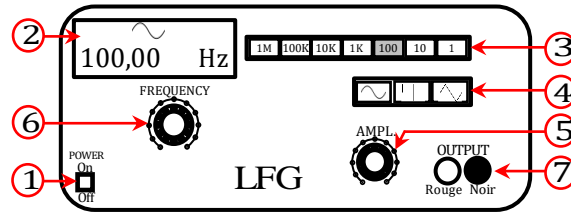

Figure 3 :
3.3. Low Frequency Generator (LFG) (figure 3)